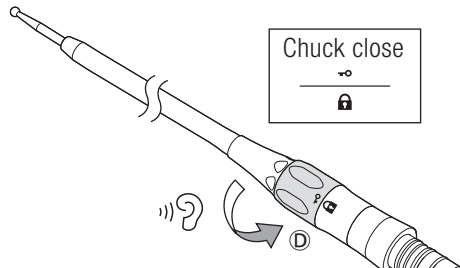

Fig. 3
- 2** Rotate the twist collet in the direction of **D** until it clicks (Fig. 3).